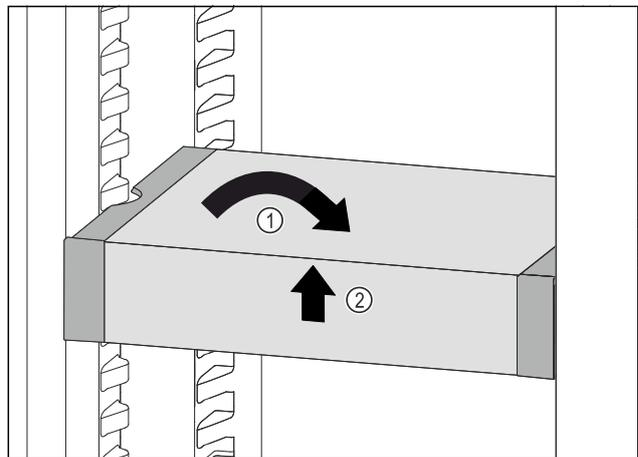

Fig. 101
- ▶ Set VarioSafe straight. Fig. 101 (1)
- ▶ Lift VarioSafe at the front. Fig. 101 (2)